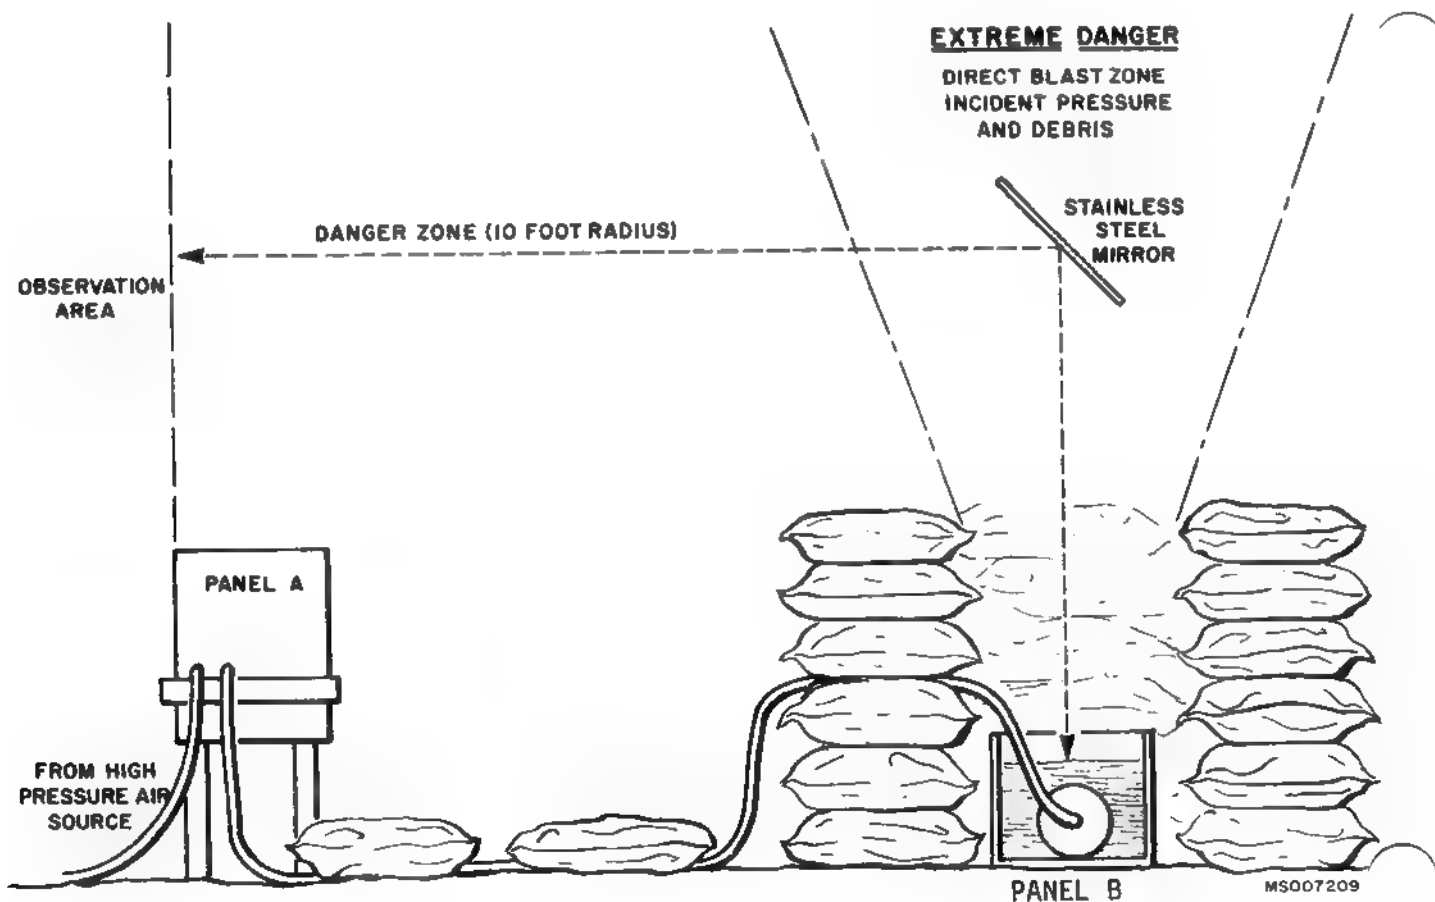

Figure 172.3. Air leak test layout.
- (f) Place the stainless steel mirror about 2 feet above the opening at the top of the barricade (fig. 172.3)
Warning: Do not view the UUT directly while performing the air leak test with high pressure air. All observations must be made via the stainless steel mirror from the observation area outside of the danger zone (fig. 172.3).